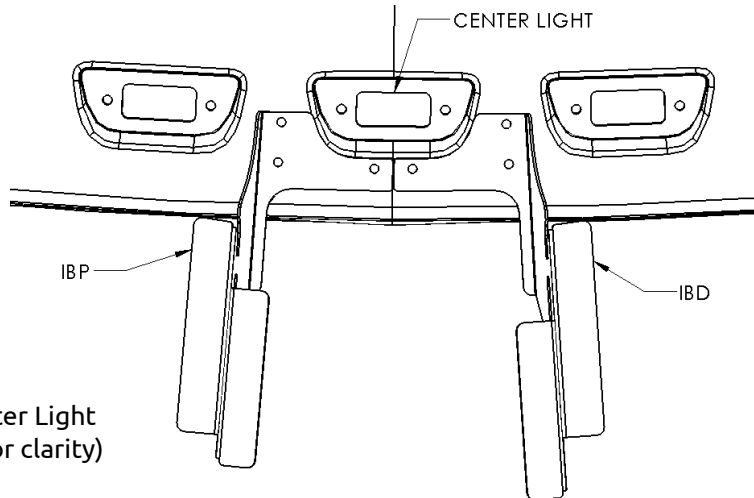

Figure 4
- c. Attach Driver Visor Sub-assembly to Passenger Visor Sub-assembly using the (2) supplied 1/4-20x3/4 Hex Head bolts with (4) Flat Washers and (2) Locknuts
- a. Align the Inner Brackets around/below the center light (see Figure 4).